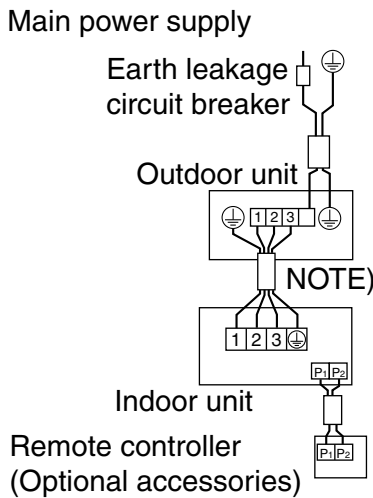

Fig. 24
- **Pair type:** 1 remote controller controls 1 indoor unit (standard system). (Refer to Fig. 24)